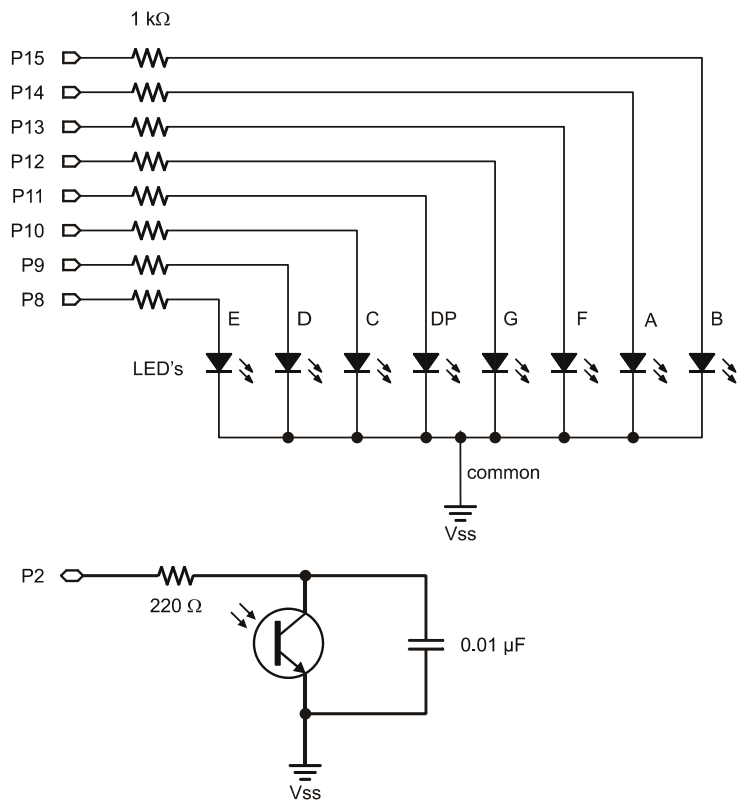
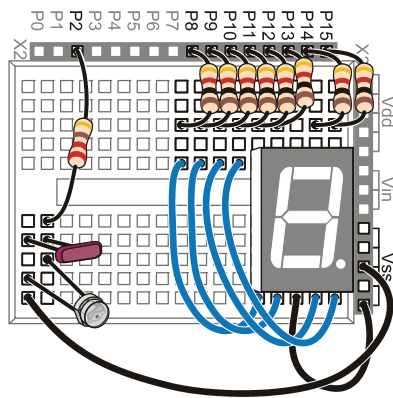

Figure 7-9
Figure 7-10
Figure 7-9 shows the 7-segment LED display and phototransistor circuit schematics that will be used to make the light meter, and Figure 7-10 shows a wiring diagram of the circuits. The phototransistor circuit is the same one you have been using in the last two activities, and the 7-segment LED display circuit is the same one from Figure 6-11 on page 176.
- ✓ Build the circuit shown in Figure 7-9 and Figure 7-10.